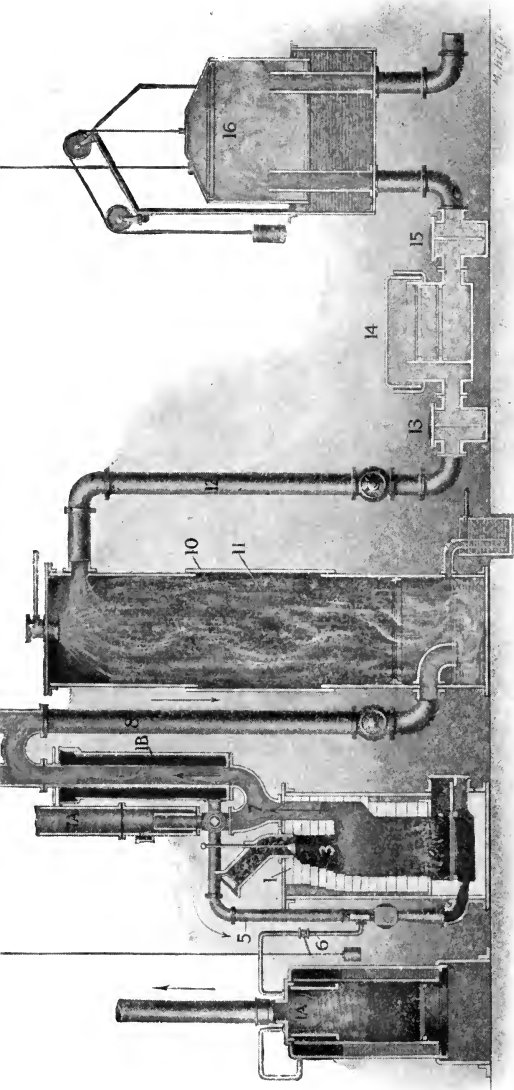

FIG. 114.
**Pressure Producer Gas** (Fig. 114). Pressure producer gas is made from a variety of fuels, such as bituminous coal, lignite, coke, anthracite, charcoal, sawdust, wood refuse, etc. The gas is produced under slight pressure, hence the name **pressure** producer gas.
Fig. 114 illustrates a typical pressure producer gas plant.